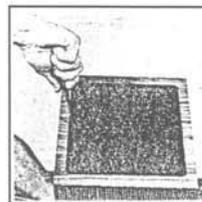

Fig. 2
- Turn the loudspeaker upside down and remove the base cover (Fig. 2).